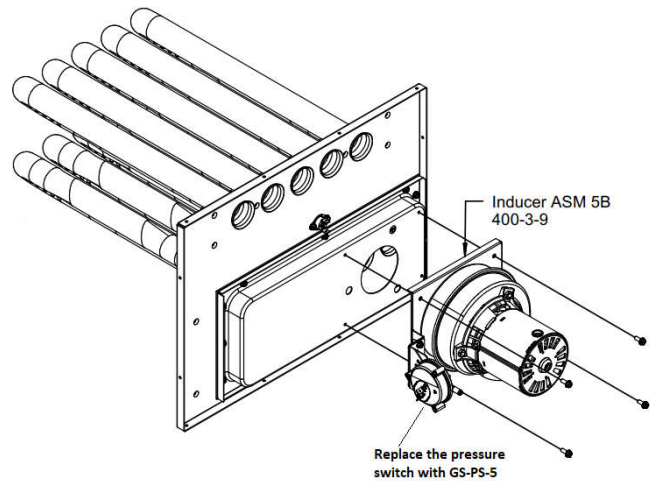

FIGURE 2
- c. Replace the existing pressure switch with the GS-PS-5 pressure switch provided in the kit, refer Figure 2